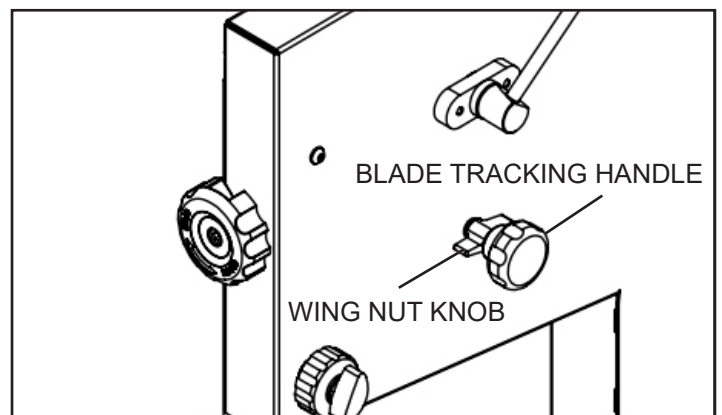

FIGURE 14
1. Open both doors. At the rear of the machine, loosen the locking Wing Nut Knob (#49) by turning it counterclockwise. FIG. 14.